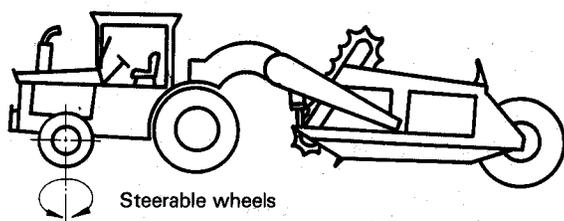

Figure 3 – Front wheel steer
5.1.2.1 Front wheel steer (figure 3)